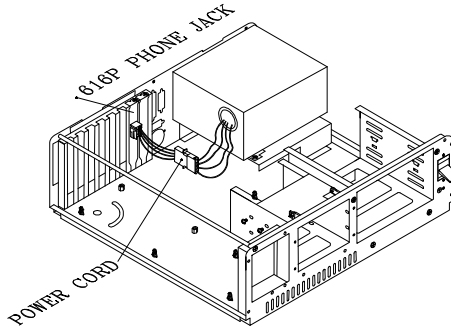

Fig 2
2.Connect the cable to the **HDD** type power connector of PC power supply. See **Fig2**. Then close the PC case.